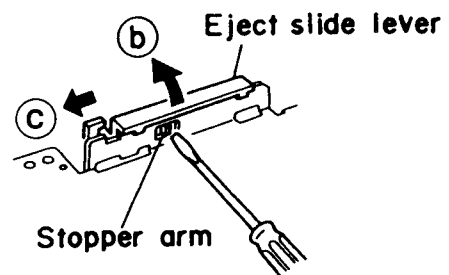

Fig. 2-23
■ **Eject slide lever (Fig. 2-23)**
1. Place the cassette mechanism back side frontward and disengage the stopper arm ⑥ of the Eject slide lever by pressing it inwards through the opening of the chassis with a small screwdriver as shown in Fig. 2-23.
2. Disengage the Eject slide lever in the direction of arrow ③.